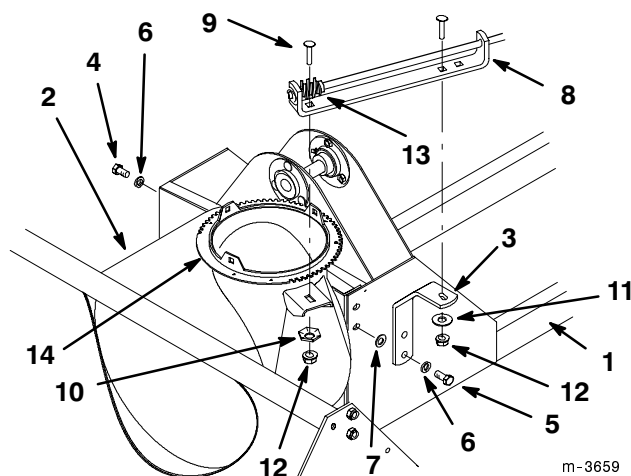

Figure 2
1. Attach the frame assembly and crank support bracket to the auger housings (Fig. 2).
- A. Begin with the (2) 3/8 x 1" (25 mm) bolts, using (2) 3/8" (10 mm) flat washers as spacers between the crank support bracket and the housing, and (2) 3/8" (10 mm) lock washers.
- B. Install the (6) 3/8" x 3/4" (19 mm) bolts with (6) 3/8" (10 mm) lock washers.
2. Install the worm gear into the teeth in the chute ring. Ensure the worm gear and teeth mesh fully but do not bind. Secure chute rotator assembly with (2) 5/16 x 1" (25 mm) carriage bolts, a 5/16" (8 mm) pyramidal washer (concave side up), a 5/16" (8 mm) flat washer, and (2) 5/16" locknuts (Fig. 2). Ensure the chute ring rotates freely.